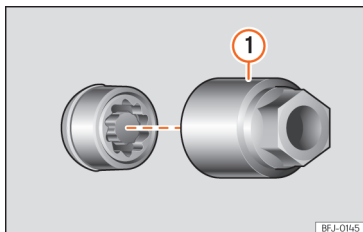

Fig. 186 Anti-theft wheel bolt with cap and adapter.
- Insert the special adapter »» Fig. 186 ① (vehicle tools »» page 238) onto the anti-theft wheel bolt and push it on as far as it will go.